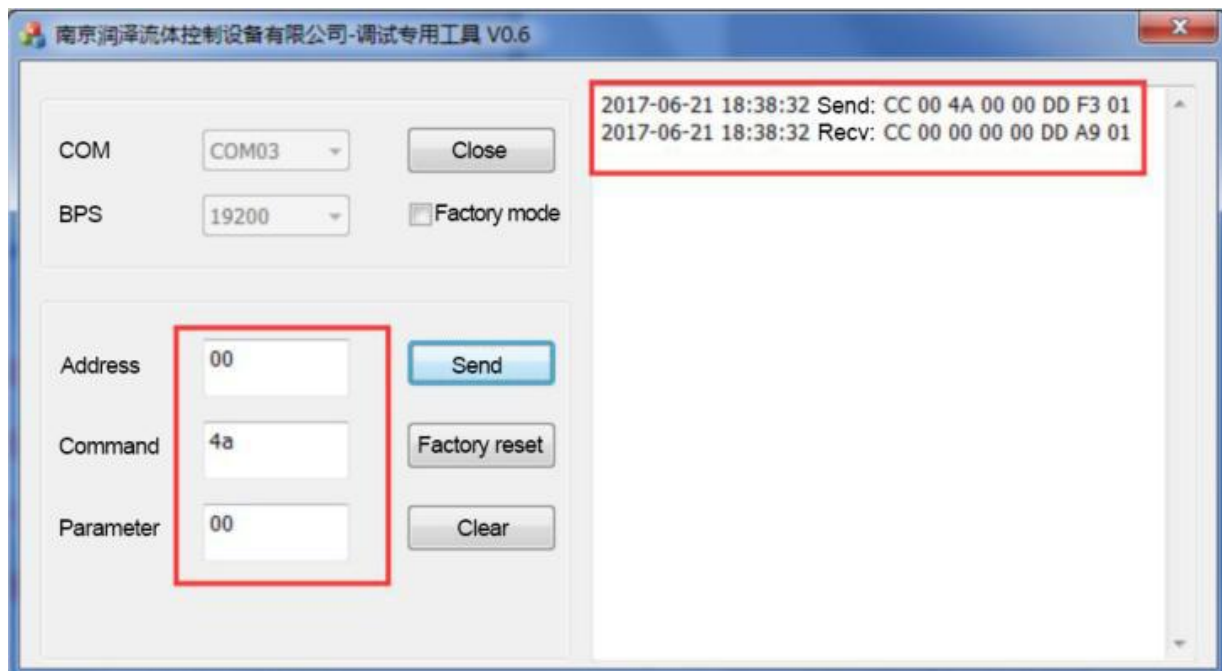

Figure 6
E.g.3 Inquiry motor status (as Figure 6)